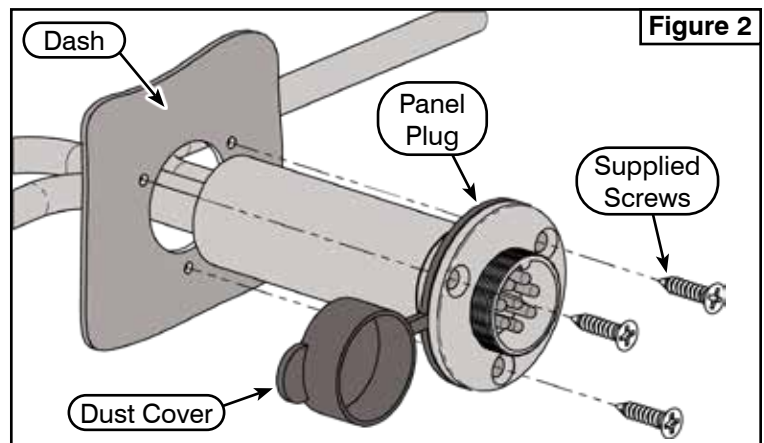

Figure 2
2. Splice the end of the red wire from the **Hand Remote Harness (2)** into a power source that is controlled by the ignition (Keyed Power). Use a test light to identify a wire that receives power only when the key is in the ON position.
3. Connect the green and black wires on the **Hand Remote Harness (2)** to the green and black wires on the winch contactor. Then, connect the white wire to the negative (-) post on the contactor.
4. Connect the Brown and Yellow wires from the **Hand Remote Harness (2)** to the **Main Actuator Harness (3A)**:
5. Connect the Purple and Orange wires from the **Hand Remote Harness (2)** to the **Main Actuator Harness (3B)**:
6. Choose a suitable location to mount the 8-pin panel plug on the **Hand Remote Harness (2)**. Ideally, place it under the dash on a flat surface, but feel free to mount it wherever is most convenient. Once you've selected the spot, drill a **3/4" (19mm) hole**. If necessary, the hole may need to be enlarged so the panel plug fits snugly. Secure the plug using the supplied screws, **being careful not to overtighten them**. Refer to **Figures 2 and 3** for details.
8. When the **Hand Remote (1)** is not in use, always cover the panel plug on the **Hand Remote Harness (2)** with
the dust cover to keep it clean. Be sure to store the Hand Remote (1) in a safe location when not in use. See **Figure 2**.
10. See the manual included with the **Hand Remote (1)** for information on pre-programmed controls and button layout.
4. Install the Push Tube Center Pivot (3) onto the front of the Push Tubes Weldment (15) and secure with 6 Bolts and Nuts (14.1 & 14.3). See **Figure 2**.
5. Attach Lift Hook (17) with Carriage Bolts (14.2) and Nuts (14.3) through the Center Pivot (3) and Push Tube Weldment (15). Tighten all hardware evenly. See **Figure 2**.